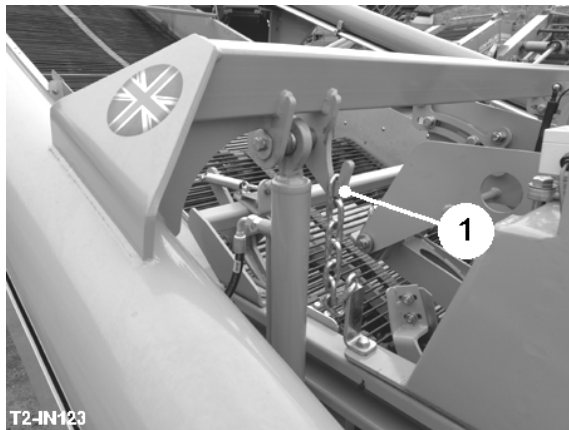

Fig 3
The digger assembly, which includes the depth wheels, disc coulters, shares and digger web is retained in the raised position by transport chains. Before attempting to operate the digger assembly the transport chains (item 1, fig 3) will need to be unhooked from the chassis.